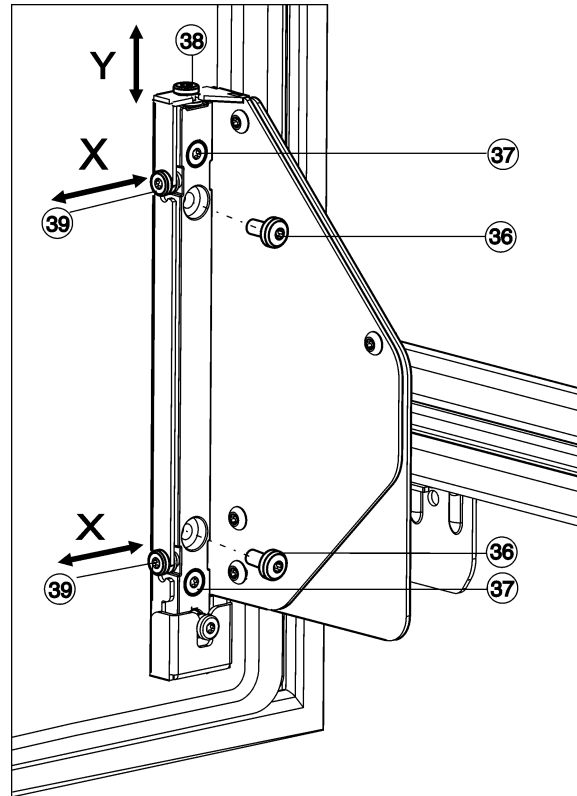

Fig. 27
- ▶ Unscrew and remove the screws Fig. 27 (36).
- ▷ Dispose of the screws Fig. 27 (36), they are no longer needed.
- ▶ Just loosen the screws Fig. 27 (37) by 1 to 2 turns.
- ▶ Turn the adjusting screw Fig. 27 (38). Clockwise: for moving the door upwards by 4 mm max. Anticlockwise: for moving the door downwards by 2 mm max.
- ▶ Re-tighten all the screws Fig. 27 (37).
- ▶ If the screws Fig. 27 (36) are still present, unscrew and remove them.
- ▶ Turn the adjusting screws Fig. 27 (39) according to the lateral adjusting direction wanted.
- ▶ After having made the lateral adjustment, re-tighten the screws Fig. 27 (37).